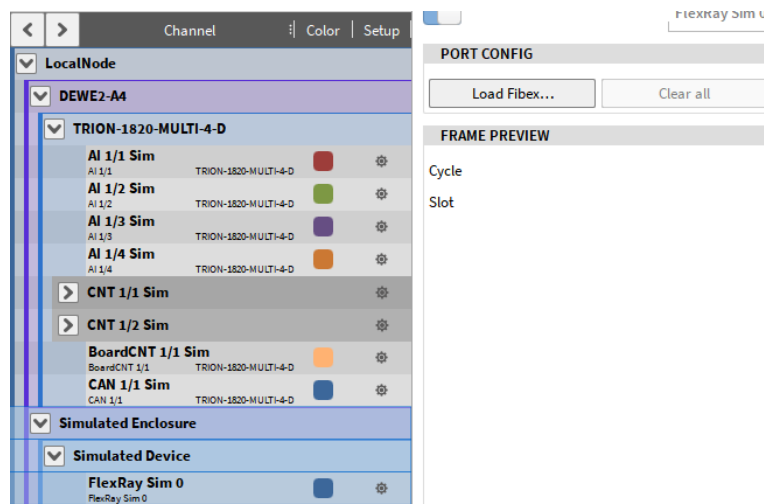

Fig. 4.59: FlexRay channel settings
- Click on the Gear button to open the Channel settings (marked blue in Fig. 4.58). Click on the *Load Fibex...* button to select the proper fibex-file (see Fig. 4.59).
- To select additional channels later on, just reload the fibex-file and pick more channel in the channel picker dialog. The *Clear all* (Fig. 4.59) button deletes the current channel selection.